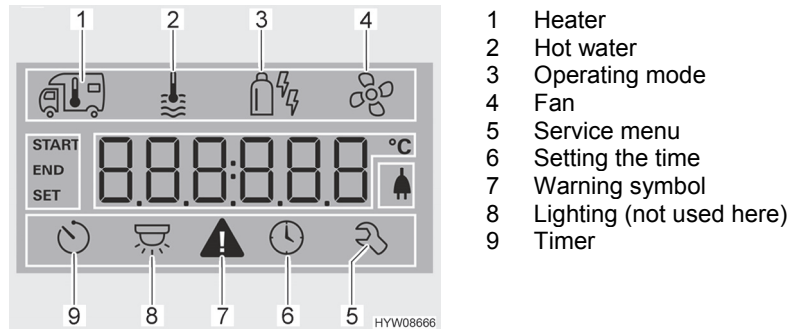

Fig. 153 Display (operating unit)
- Turn rotary push button (Fig. 152,6) until the heater menu symbol (Fig. 153,1) flashes.
- Turn rotary push button (Fig. 152,6) until the hot water menu symbol (Fig. 153,2) flashes.
- Turn rotary push button (Fig. 152,6) until the menu symbol operating mode (Fig. 153,3) flashes.
- Turn rotary push button (Fig. 152,6) until the fan menu symbol (Fig. 153,4) flashes.
- Turn rotary push button (Fig. 152,6) until the timer menu symbol (Fig. 153,9) flashes.
- Press rotary push button. The timer is activated. The timer symbol (Fig. 153,9) flashes when the timer is programmed and active.
The warning symbol (Fig. 153,7) flashes in the event of a warning. The heater continues to operate. In the event of only a temporary fault, the warning symbol goes out automatically.